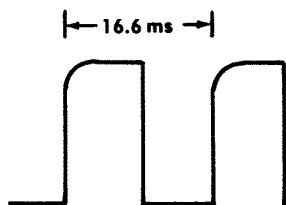

Figure 6-1. Square Wave Signal
1. Place the power ON-OFF control to ON (make sure unit is in PLAY mode). Connect oscilloscope probe to test point TP203 and the ground lead to the recorder chassis. Set the TRIGGERING MODE of the scope to LINE SYNC. While observing the square wave pattern (Some waveforms will have a rounded leading edge), adjust R225 until pattern (waveform) in Figure 6-1 is stopped or drifting slowly. Square wave should be 16.6 ms in length as shown.